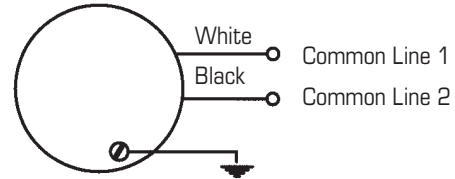

Figure 2 - Wiring Diagrams
3. Connect power supply to the motor using an approved wiring method. See preferred wiring diagram in Figure 2